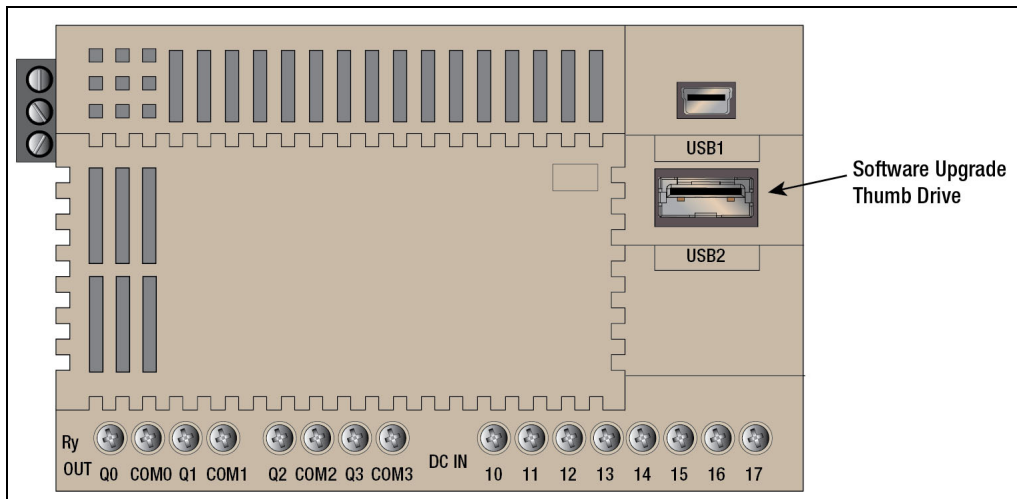

Figure 20. FCC USB Ports
3. Open the door of the FCC and with the power to the FCC On, plug the upgrade thumb drive into the FCC USB2 port on the rear of the FCC Display (see Figure 20).